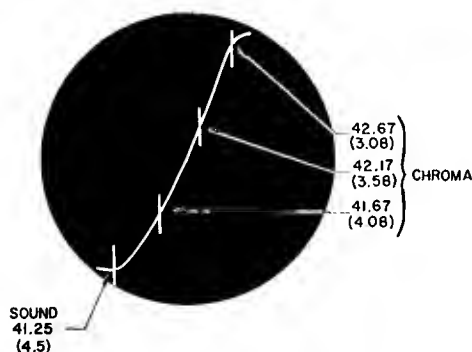

Figure 5.7B (Repeated) Sweep Width Reduced to Show Only Sound and Chroma Portion of I-F Response
- 8.5.3.4 Using the SWEEP WIDTH control and the CENTER FREQUENCY control reduce the sweep and recenter as required so that the sound and chroma portion of the i-f response curve is centered on the oscilloscope as indicated in Figure 5.7B (Repeated).